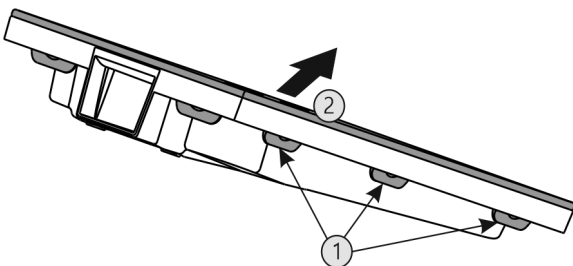

Fig. 53
- ▶ Press all lugs Fig. 53 (1) one after another and remove the cover Fig. 53 (2).